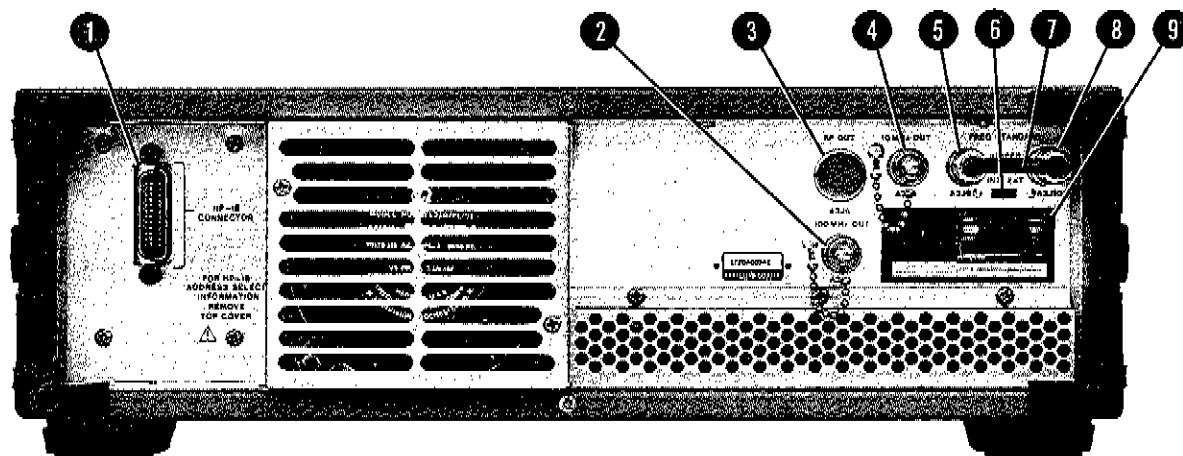

Figure 3-2. Rear Panel Connectors, Switches, and Displays
3-7. The only maintenance the operator should normally perform is the replacement of the primary power fuse (F1) located in the Line Power Module Assembly ⑨ (A3A11) shown in Figure 3-2 and the mechanical zero adjustment ⑫ of the meter shown in Figure 3-1. For instructions on how to change the fuse, refer to Section II, Line Voltage Selection.
- INTERNAL REF OFF:** when lit, indicates when the rear panel INT-EXT switch **27** (see Figure 3-2) is in the EXT position.
- PRESET key (3 GHz):** sets frequency to 3 GHz and extinguishes the Frequency Resolution Light Bars **8**.
1. Check that the LINE switch **12** is in STANDBY and remove the power cable from the Line Power Module **9** (see Figure 3-2).
2. Check that Line Power Module **9** (see Figure 3-2) is set to the nominal line voltage to be used and that the fuse is the correct value and type.
1. On the rear panel (see Figure 3-2), remove Jumper **7** (A3W3) from the FREQ STANDARD EXT connector **8** (A3J10), and set the FREQ STANDARD INT/EXT switch **6** to EXT.